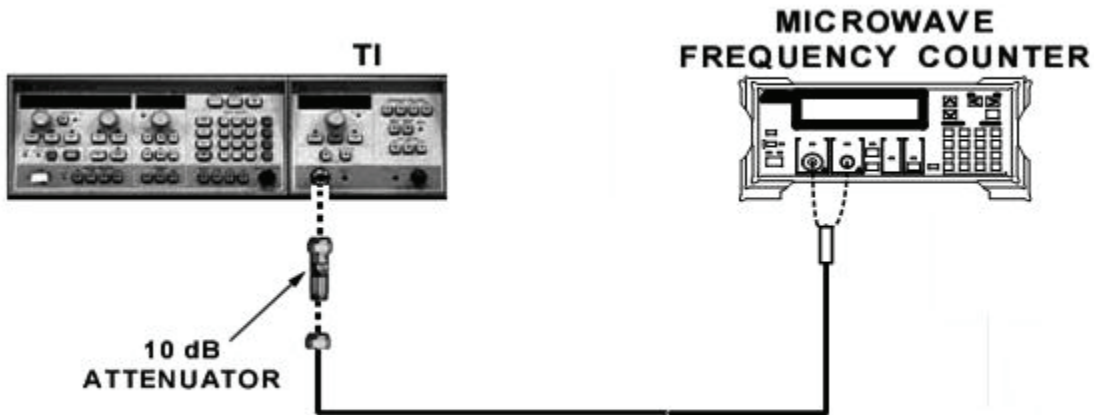

Figure 2. CW frequency accuracy – equipment setup.
(1) Connect equipment as shown in figure 2.